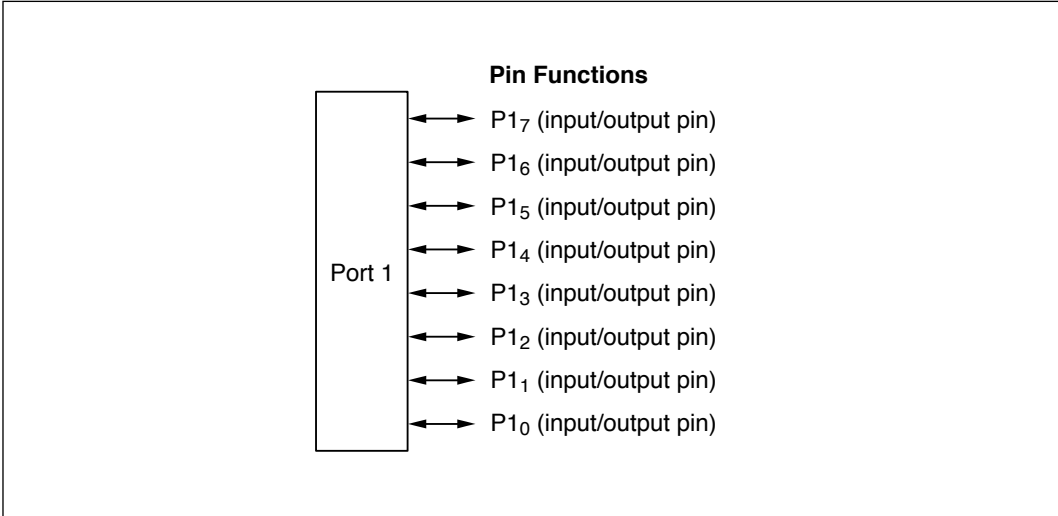

Figure 9-4 Pin Functions in Mode 7
(2) Pin Functions in Single-Chip Mode (Mode 7): Port 1 consists of general-purpose input/output pins. Input or output can be selected separately for each pin. A pin becomes an output pin if the corresponding P1DDR bit is set to 1 and an input pin if this bit is cleared to 0. Figure 9-4 shows the pin functions in mode 7.